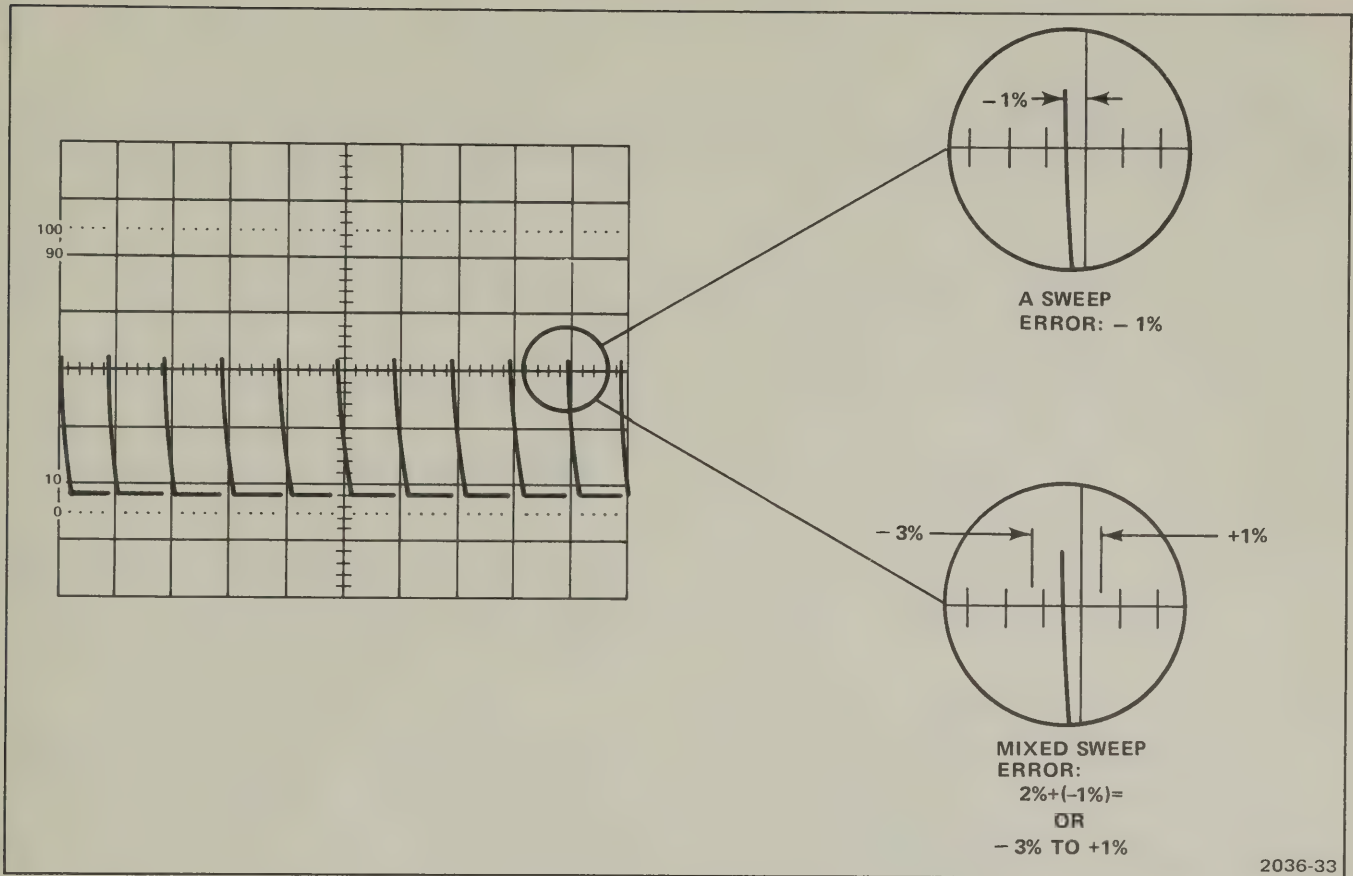

Fig. 6-5. Mixed sweep accuracy.
e. **CHECK**—Timing error between second and tenth time markers is within 0.18 division plus the error noted in part c (see Figure 6-5).